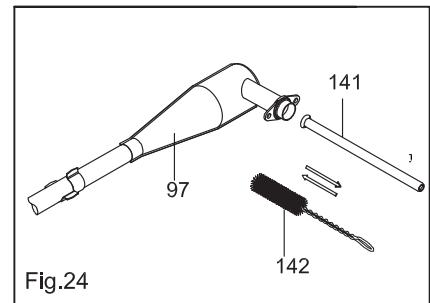

Fig.24
- e) Clean mixing pipe of resonator (97) of combustion residues with scraper (141) and wire brush (142). (Fig. 24)